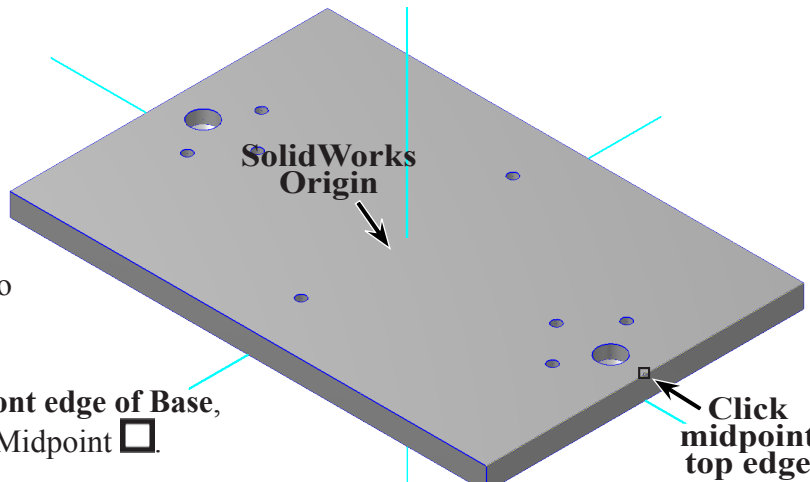

Fig. 12
Step 1. Display the origin. Use **F9** to show the axes, **Fig. 12.**
Step 3. Click **Midpoint**  of **top front edge of Base**, **Fig. 12.** Be sure to snap the **Midpoint** .